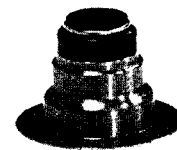

Figure 3-110. Valve Stem Seal/Spring Seat Assembly
9. See Figure 3-110. Obtain **new** valve stem seal.